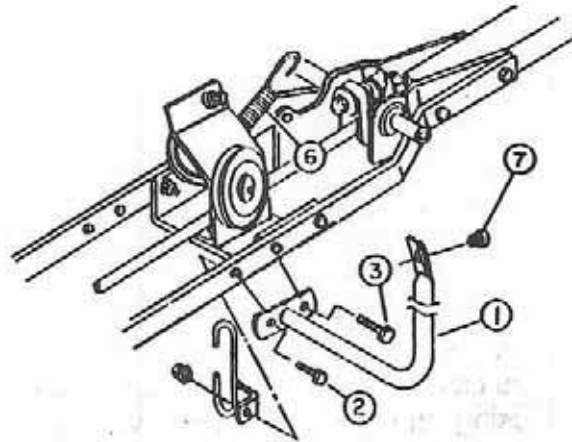

FIGURE 3
- d) Install the rotation support (fig. 3, item 1) on left hand side of subframe by using the existing bolts  $3/8 \times 1 \frac{1}{4}$ " (item 2 & 3), making sure the belt guide is  $90^\circ$  to subframe flatbar. Secure bolts with nuts. Insert plastic grommet (item 7) in rotation support (item 1).